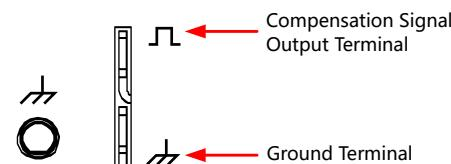

Figure 4.7 To Use the Compensation Signal
2. Connect the ground alligator clip of the probe to "Ground Terminal", as shown in Figure 4.7 below.
3. Use the probe to connect the input terminal of CH1 of the oscilloscope and the "Compensation Signal Output Terminal" of the probe, as shown in Figure 4.7.